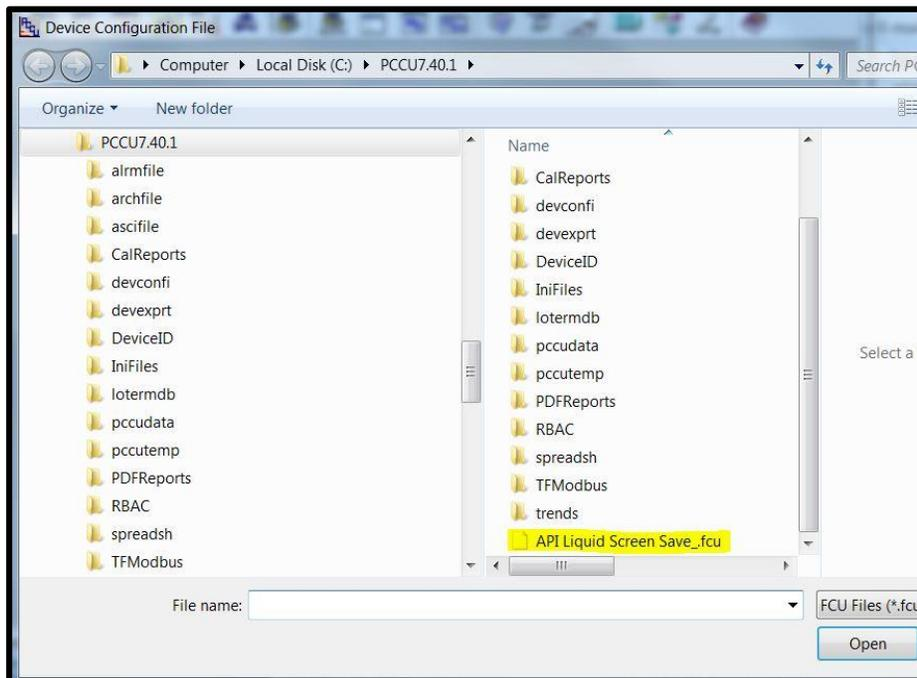

Figure 13: Device Configuration Files
7. At the Device Configuration File screen, locate and select the configuration file saved earlier in the PCCU7 folder (Figure 13).